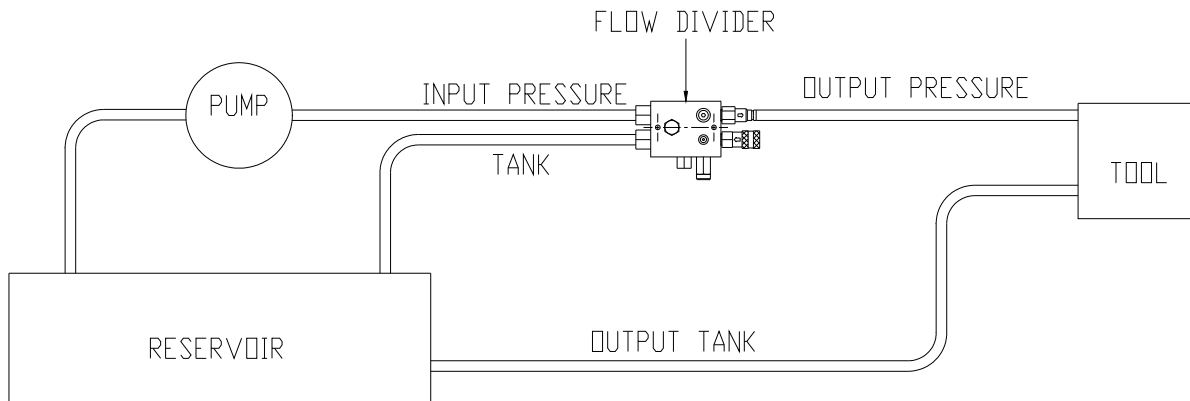

Figure 2
3. Some hydraulic hand tools are very sensitive to back pressure. Hydraulic breakers, for example, will not operate properly if the back pressure exceeds 150 psi. Connecting the tool return hose directly into the flow divider can add excessive back pressure due to the power supply hydraulic components. When back pressure sensitivity is a problem, connect the tool return line directly to the power supply hydraulic tank. This is shown in Figure 2.